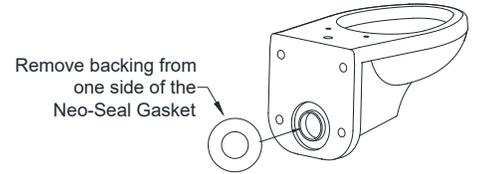

Figure 13
15. Peel off the removable backing from one-side of the Neo-Seal Gasket and seat into the groove of the water closet outlet horn. See Figure 13.